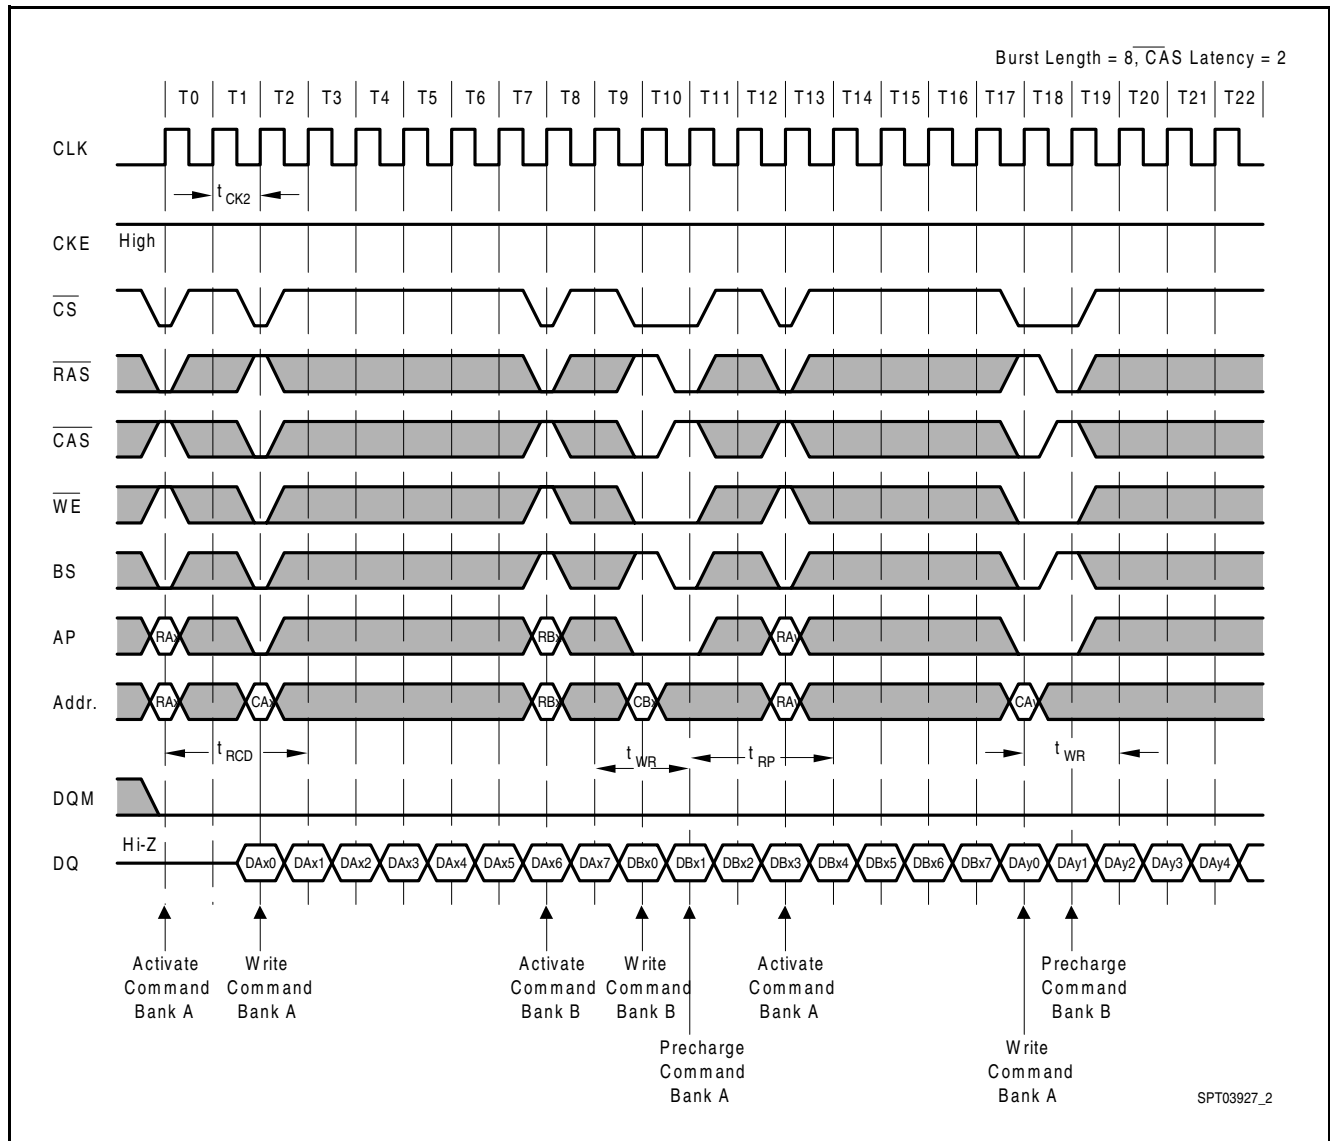

Figure 33 CAS Latency = 2
- **Figure 33** CAS Latency = 2